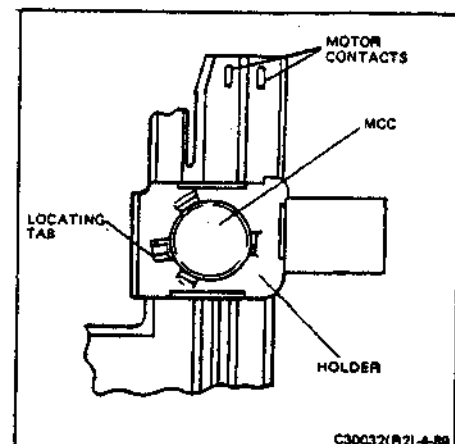

FIGURE 4-89 LOCATING TAB POSITION ON MCC
- Referring to Figure 4-89, position the MCC on the circuit.
- Refer to Figure 4-89 and press the MCC holder into place on the MCC.